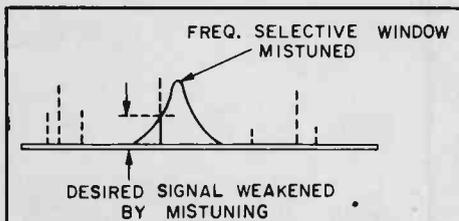

Fig. 6. Tuning circuits of AM receiver permit reception of a narrow set of frequencies and exclude those on side.
**FM Detection Via an AM Detector.** Surprisingly enough, there is a way to use an ordinary AM envelope detector (very similar to the rectifier of a power supply) to make this conversion. To understand how this is done, we must first understand that the frequency-selecting circuits of a receiver—the circuits that allow us to listen to one station and exclude all others—normally give a sloping shape to the "window" through which the desired station is allowed to pass as shown in Fig. 6.